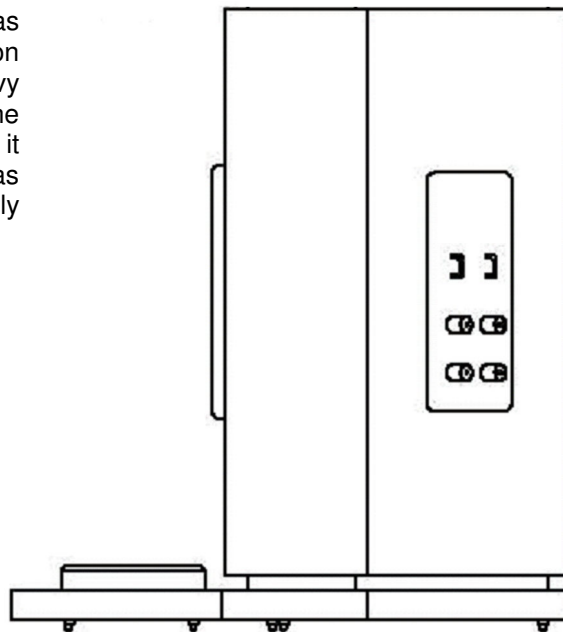

Figure 3. Lower Module on Bottom Plate
2. Identify the left lower module. This has the input terminals and level selectors on its rear face. This module is very heavy and you may find it easier to grip if the woofer grills are removed first. Place it carefully on top of the bottom plate as shown in figure 3. Ensure that it is properly seated.